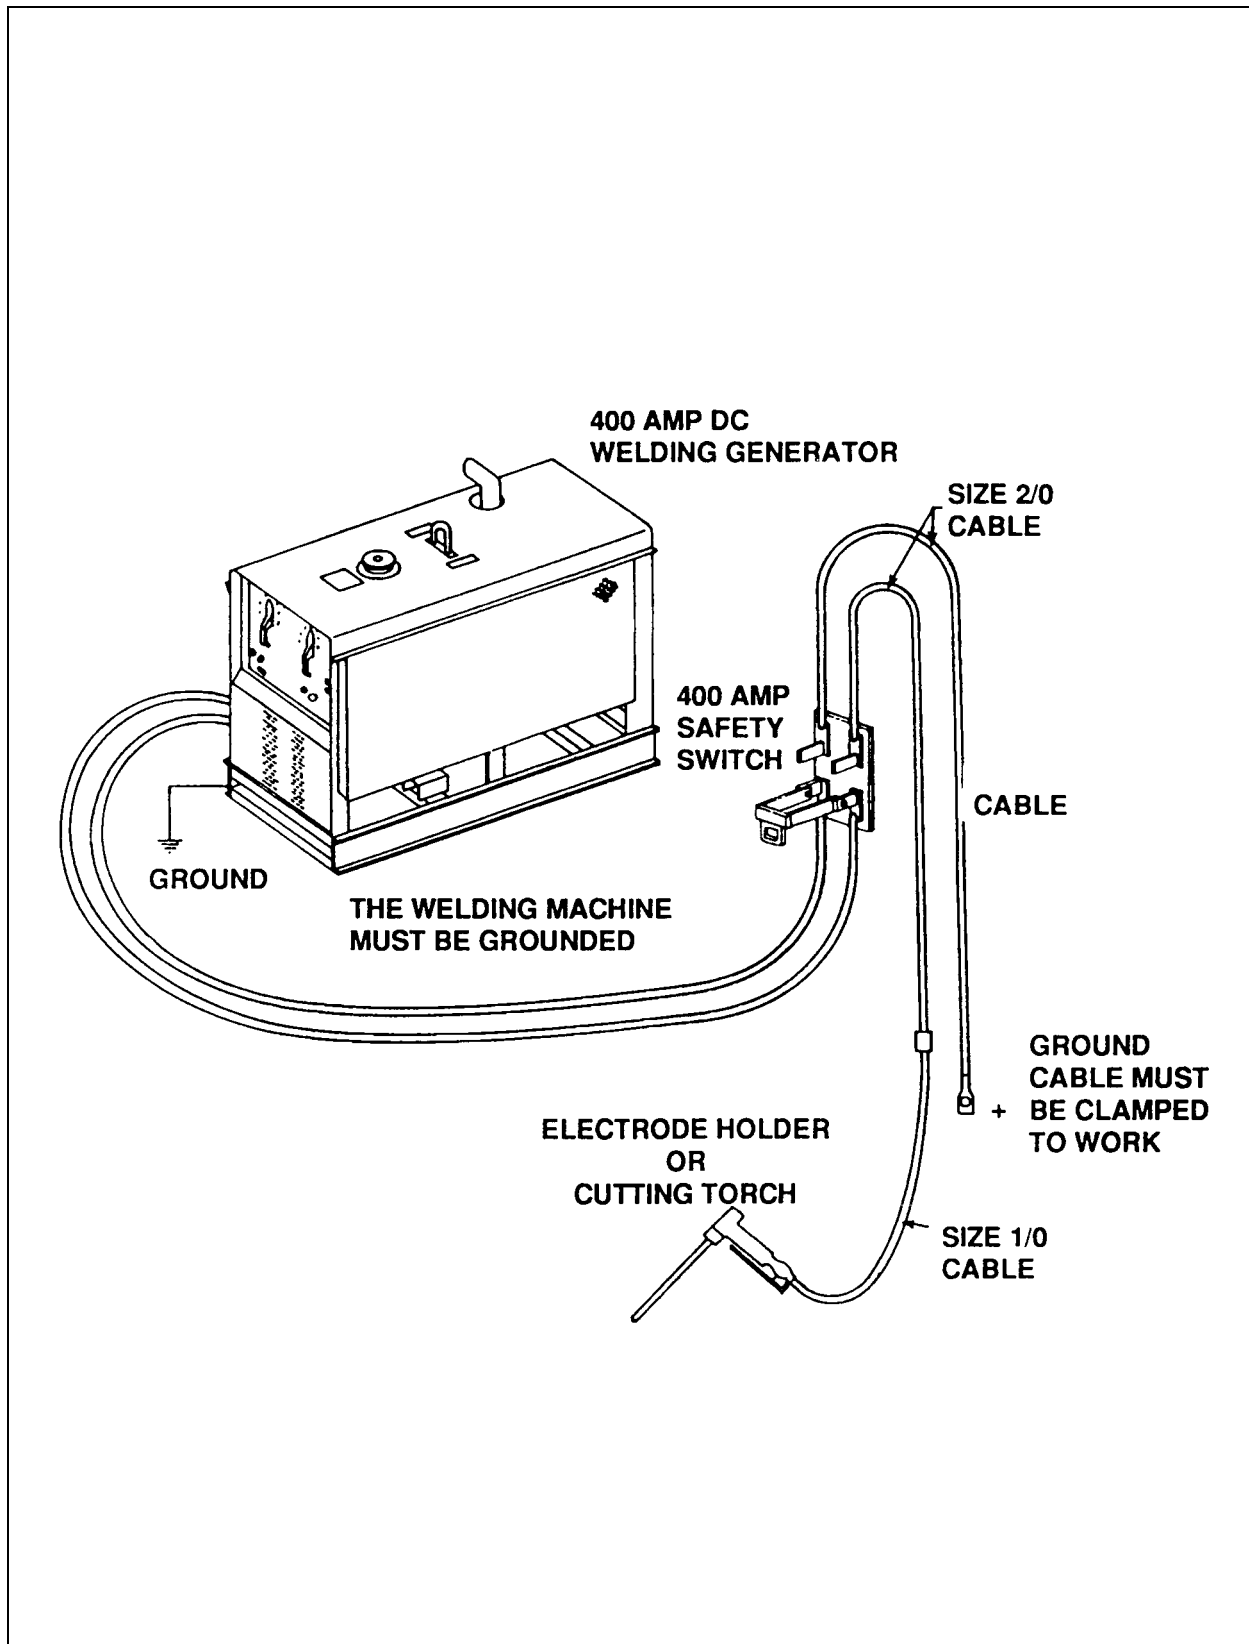

Figure 4-8. Equipment Arrangement for Welding and Cutting Straight Polarity.
4-2.3.1 Power converters. Power converters are just what the name implies; the input alternating current (AC) primary power is passed through a circuit breaker to a rectifier, where the input is transformed to DC power. Portable power converters, though somewhat limited, are particularly useful for salvage work when ship or shore power is available. Figure 4-8 shows one such unit which weighs only 70 pounds and will deliver a maximum of 80 volts open circuit with an adjustable current range of 30 to 375 amps. Power converters should not be used when the work is deeper than 100 FSW or with more than 200 feet of welding lead. To work beyond these boundaries would overwork the machine. This type machine will support cutting operations using the exothermic technique for short periods of time, however, for long burning jobs where power is to be used, a welding generator is recommended. This type of unit will not accommodate cutting operations using the steel-tubular electrode. When using electric-driven machines, ensure that the primary power supply cables are laid separately and away from welding supply cables.
4-2.3.3 Polarity. Underwater cutting and welding operations are usually performed with DC ELECTRODE NEGATIVE, i.e., STRAIGHT POLARITY. A typical equipment arrangement is illustrated in Figure 4-8. The cable from the electrode holder is connected to the negative (-) terminal of the DC power supply and the positive (+) or ground cable is connected to the work. The majority of electrode manufacturers call for a DC, ELECTRODE NEGATIVE setup. Occasionally, there may be a requirement for reverse polarity, sometimes referred to as DC, ELECTRODE POSITIVE for a particular electrode or for improved welding as noted in Chapter 3. This will normally be at the recommendation of the electrode manufacturer and will be printed on the electrode box or included in accompanying literature.
The use of an approved, positive-acting safety switch in the welding or cutting-circuit is mandatory. The switch must be mounted so the handle is in the upper-most position during welding or cutting. If the switch should accidentally fall, the circuit is broken. The switch illustrated in Figure 4-8 shows the correct orientation. The safety switch protects the diver by allowing current flow only when the diver is actually cutting or welding or has the electrode poised and ready. When a single-pole switch is used, special care must be taken that the switch is not being shunted out or bypassed. This can occur if there is a break in the insulation between the welding machine and the safety switch. It is important to remember that wet, bruised or worn cables between the machine and the switch, either single or double pole, can be shorted out by abrading against the frame of the welding machine, hatch combings or lying on a steel deck. Cables in this condition would constitute a potential source of danger.